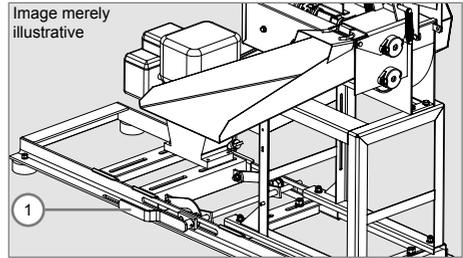

Figure 7
- ✓ In the relief position, turn on the engine and after the electric or gas engine reaches max rotation, push the belt tensioning lever (1) in the direction indicated by Figure 7.